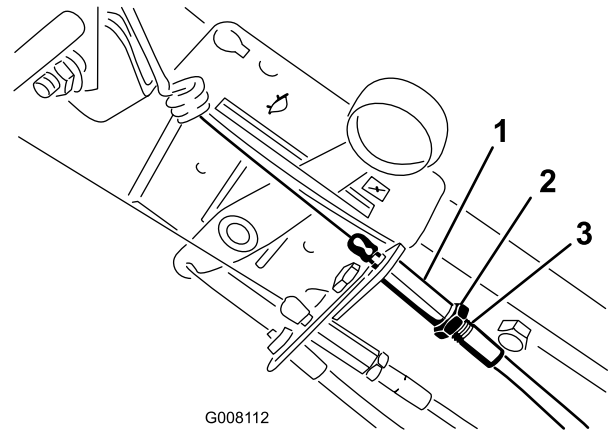

Figure 27
4. Reset the cable adjuster on the handle so that 1/4 inch (6 mm) of the threads show, then tighten the nut (Figure 27).
to adjust the cable adjuster to achieve this value (Figure 27).